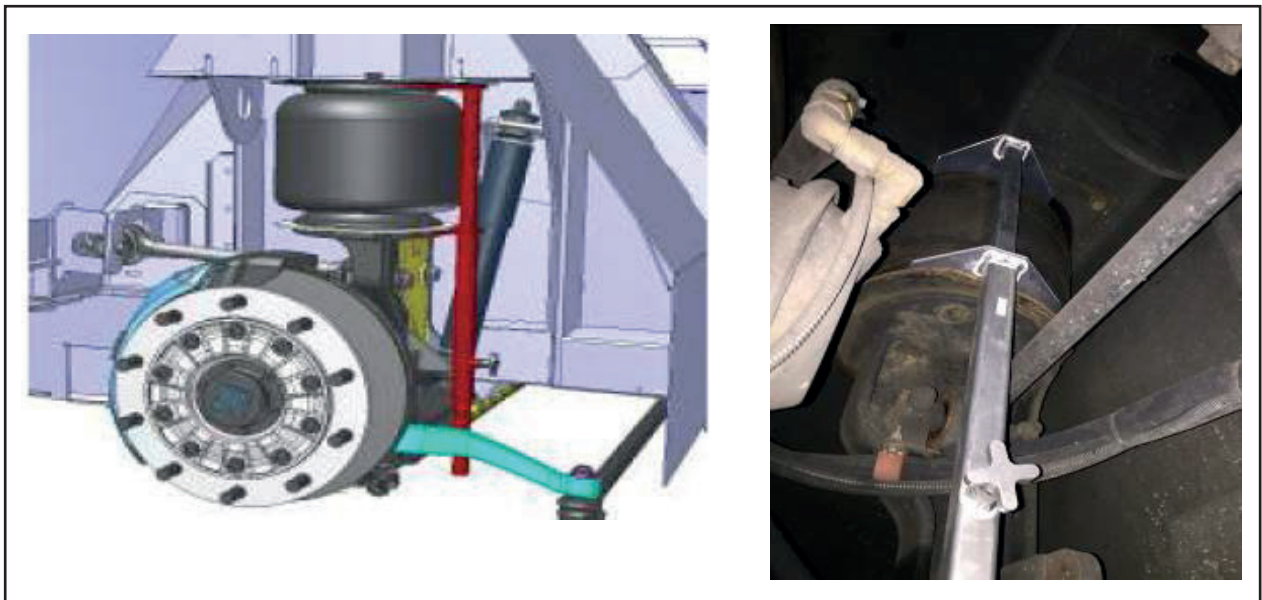

Figure 9 - Measurement of Air Springs - Front
1.21. Once the jig is in place, tighten the knob and remove the jig from the location (See Figure 9).